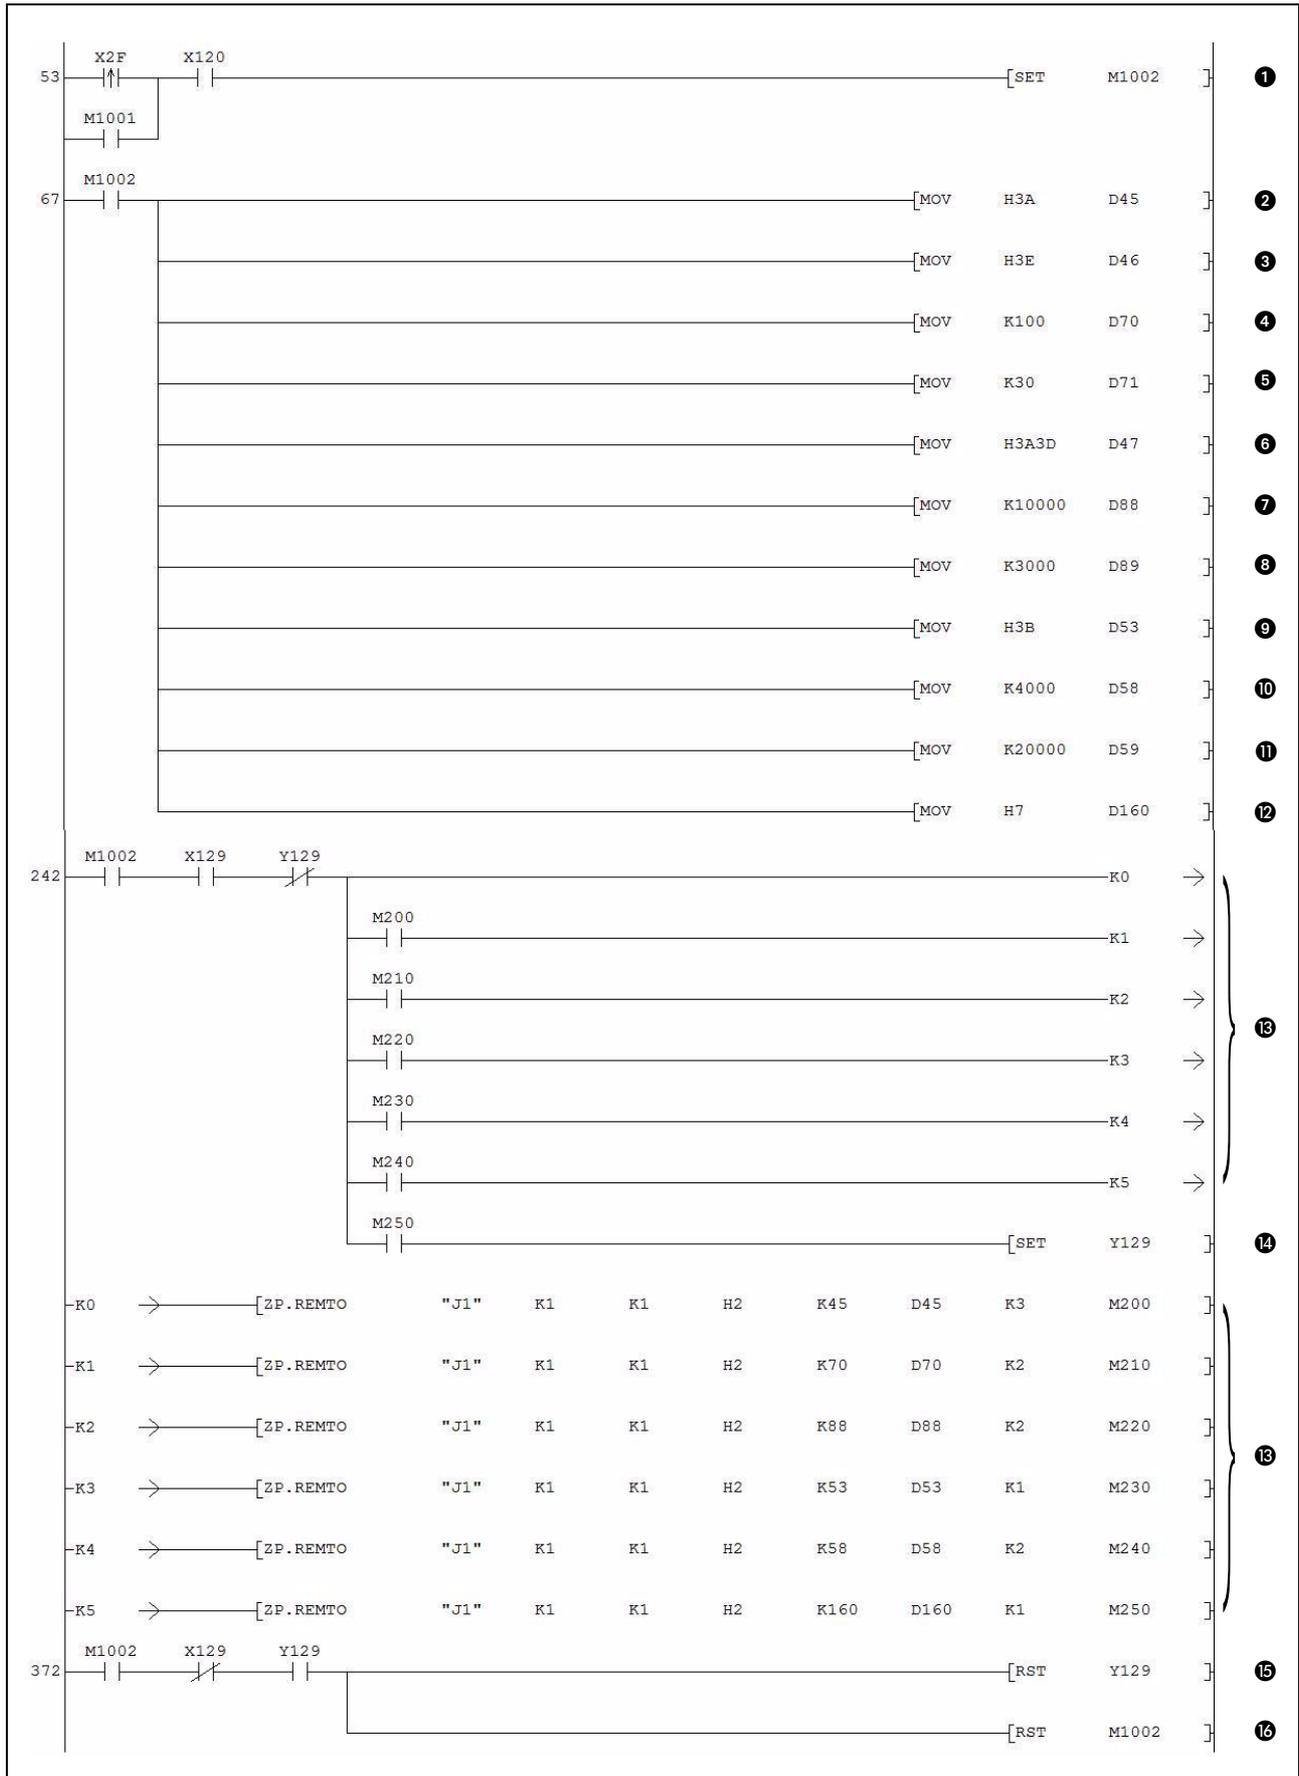

Fig. 5-18: Initial settings performed by the sequence program
The following part of the program is optional. If the HART devices are set and monitored with the tool MX CommDTM-HART, these instructions can be omitted. The HART enable/disable setting was done earlier in the initial settings (refer to ⑫ in fig. 5-18).
②	When the REMFR instruction has been executed an internal relay for controlling the scan sequence is set.
③	When the REMFR instruction has been executed without an error the CH1 HART field device status is moved into M110 to M117.
④	The next REMFR instruction, which reads the status of device connected to CH2, is started.
⑤	When the REMFR instruction has been executed without an error the CH2 HART field device status is moved into M120 to M127.
⑥	The next REMFR instruction, which reads the status of device connected to CH3, is started.
⑦	After execution of the third REMFR instruction the internal relay controlling the execution sequence of the REMFR instructions is reset. In the next program scan the REMFR instruction for reading the CH1 field device status will be executed again.
⑧	When the REMFR instruction has been executed without an error the CH2 HART field device status is moved into M130 to M137.
⑨	Processing when a malfunction of a HART field device is detected.	Device malfunction at CH1
⑩		Device malfunction at CH2
⑪		Device malfunction at CH3
⑫	Master control reset (Only when the input condition for the MC instruction (fig. 5-18) is set, the instructions between the MC and the MCR instruction are executed.)